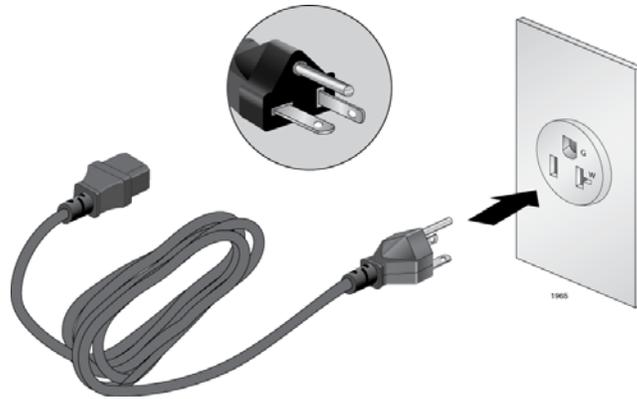

Figure 33. 100 - 125 VAC 125 V NEMA 5-20 Plug and Receptacle
- ❑ The power cords provided with the AT-SBxPWRSYS1 and AT-SBxPWRPOE1 Power Supplies for 100-125 VAC installations have 20 Amp, 125 V NEMA 5-20P plugs. The plug is only compatible with a NEMA 5-20R receptacle. See Figure 33 on page 75.